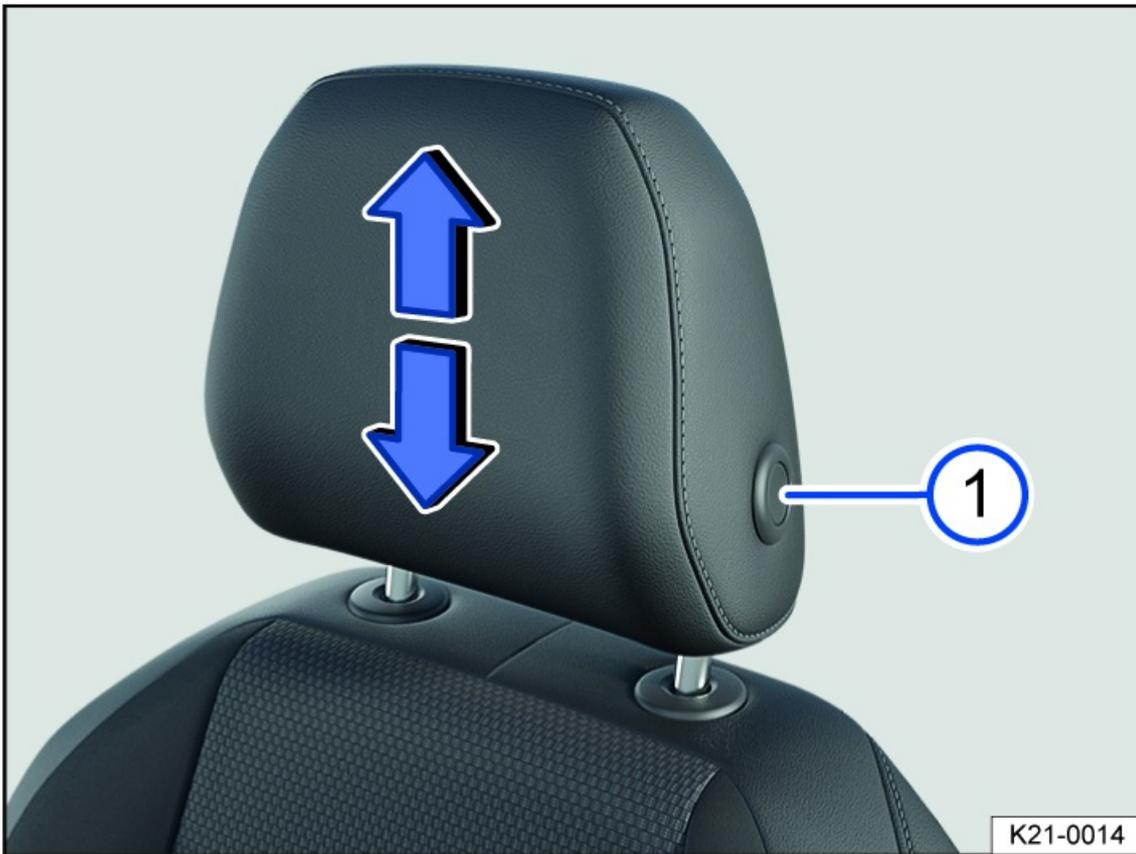
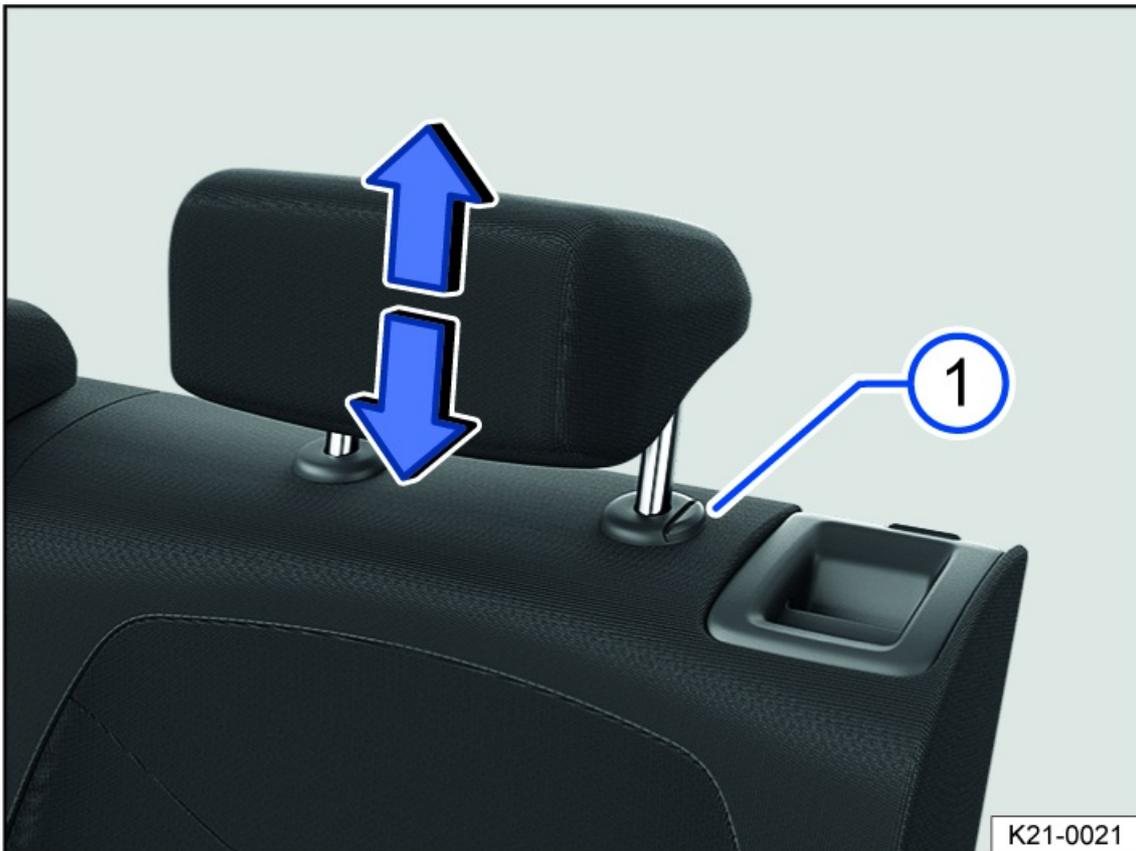

Fig. 69 Adjusting the front head restraint (general example).
Fig. 70 Adjusting the rear head restraint (general example).
1. Slide the head restraint up or down in the direction of the arrow; you may need to press the fig. 69 or fig. 70 button first to release the head restraint.